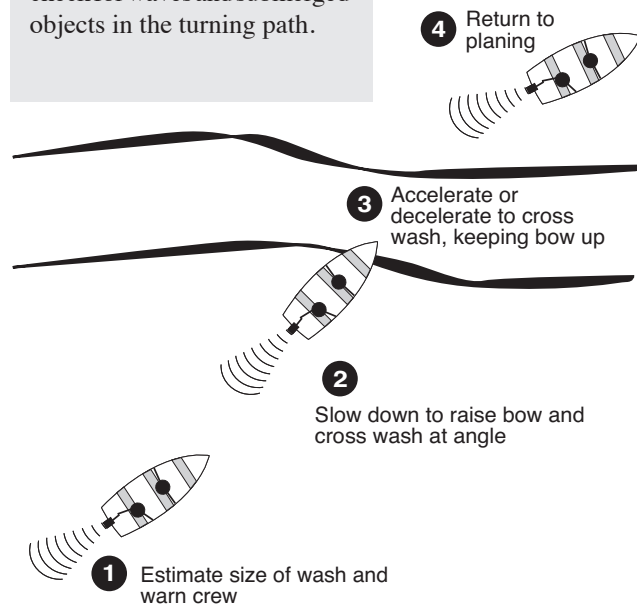

Figure 35.1 Crossing the wash
- If you see a wave coming, slow down and ease the boat through the wash as described in Figure 35.1 for crossing a wash.